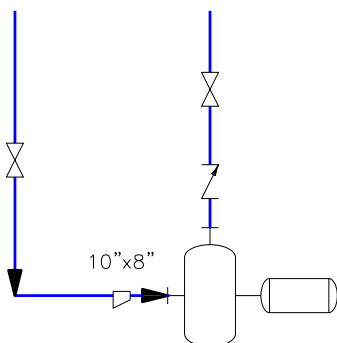

Figure 2-75 Check valve and gate valve placed on the outlet line of the first pump
7. Place Check Valves and Gate Valves on the outlet lines of the two pumps, refer to Figures 2-75 and 2-76.